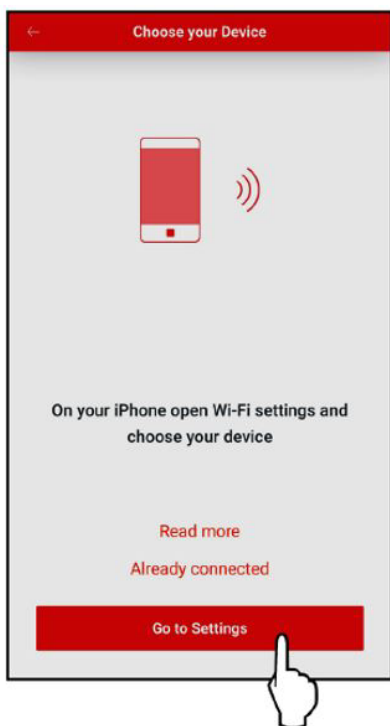

Figure 22. Go to Settings
4. Press the "Go to Settings" button on the "Choose your Device" screen. See **Figure 22**.